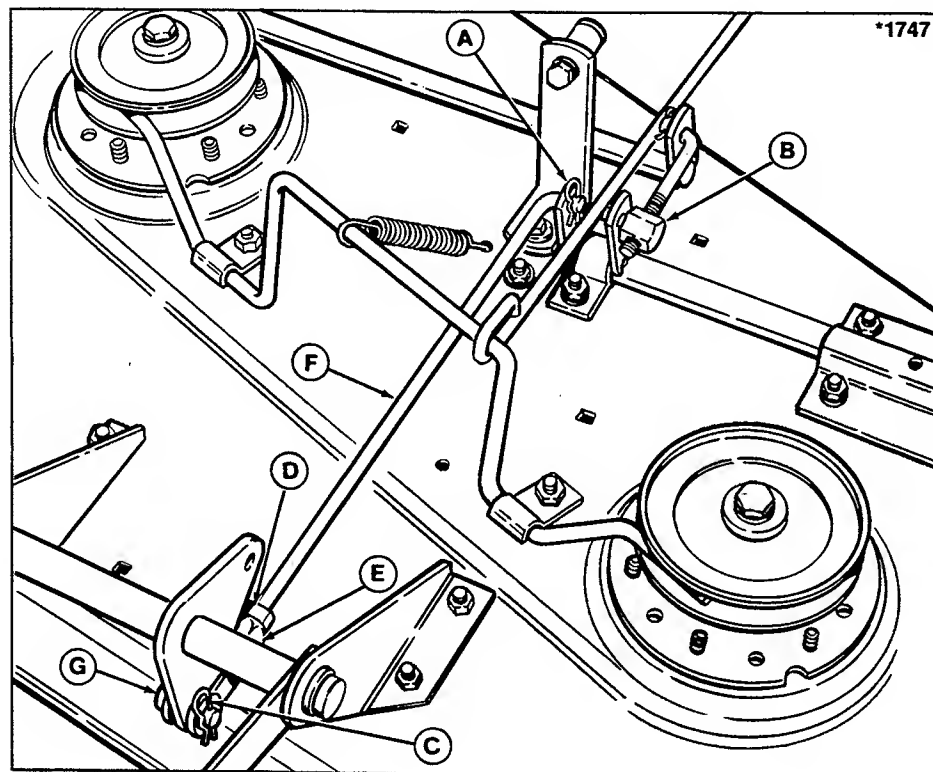

Figure 18. 36" Mower Leveling
4. Remove the clip (A, figure 18) which secures the pivot (B). Pull pivot (B) out of hole. To raise the right side of the mower, turn the pivot counterclockwise, so pivot moves toward front. To lower the right side of the mower, turn the pivot (B) clockwise, so pivot moves toward rear. Put the pivot back in the hole and recheck the measurement. If mower is level, install the clip (A). If not, readjust the rod.
7. Remove the clip (C, figure 18) from the clevis (E). Loosen the jam nut (D) from the clevis (E). Pull the pin (G) out of the clevis. Turn the clevis clockwise to lower the rear of the mower. Turn the clevis counterclockwise to raise the rear of the mower. Reattach clevis with pin and recheck the measurement. If measurement is correct, tighten nut (D) against clevis, and reinstall rod and clip (C).